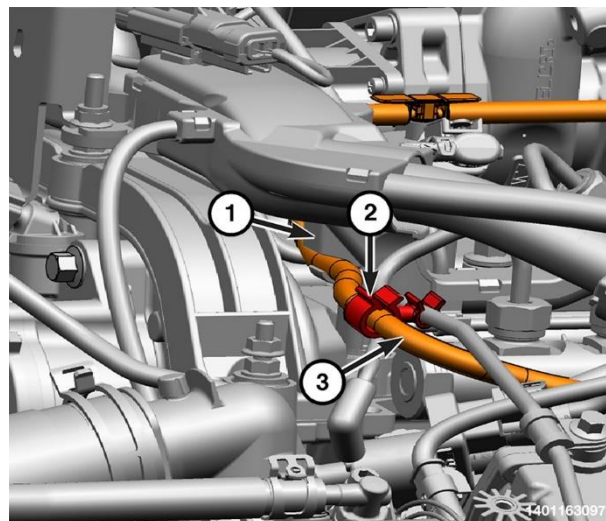

Figure 126 – Injector Return Line Retainers
63. Detach the fuel return line retainers (1 and 2) (Figure 126).
64. Remove the fuel injector return line assembly (3) (Figure 126).